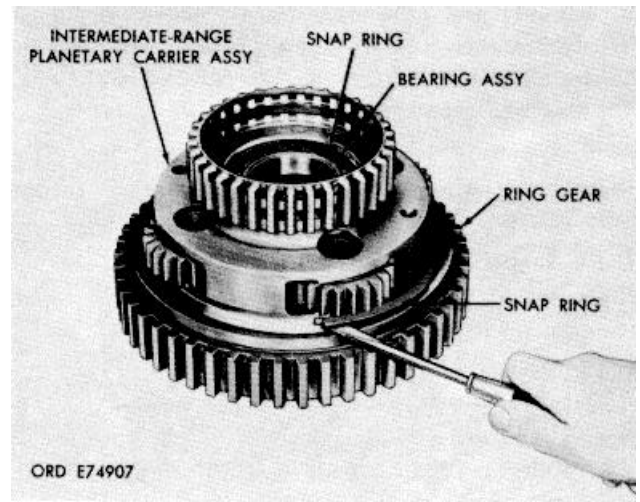

Figure 7-8. Removing snapping which retains low-range spur gear
a. Remove snapping (43) from low-range spur gear (44) Refer to figure 7-8.
b. Remove low-range spur gear (44, FO-4) from intermediate-range carrier assembly (30).
c. Remove the snapping and bearing assembly from the planetary carrier (fig. 7-8).
h. Install remaining pinions (31.3, FO-4), with component parts, into carrier (32) in the same manner as described in a through g, above.
i. Install four spindle lock pins (31.7), smooth ends first, into carrier (32). Press them to 0.03 to 0.09 inch below the outer circumference of carrier (32), and stake carrier metal over the pins.
j. Install bearing (18) into carrier (32), and retain it with retaining ring (17). Refer to figure 7-8.
k. Install low-range spur gear (44, FO-4) onto intermediate-range carrier assembly (30) and then install snapping (43) to retain it. Refer to figure 7-8.